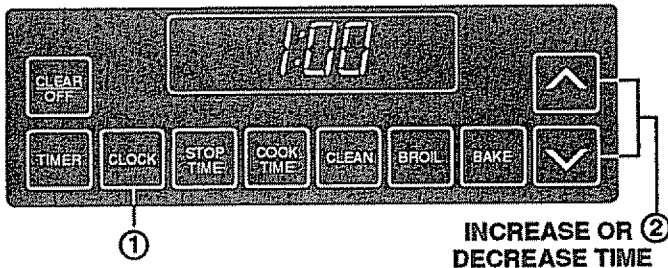

Fig. 1
2. Press the **UP** or **DOWN** arrow pad to select the correct time of day. Hold your finger on the arrow pad to change display numbers quickly. Touch and release the arrow pad to change the time slowly. See Fig. 1.